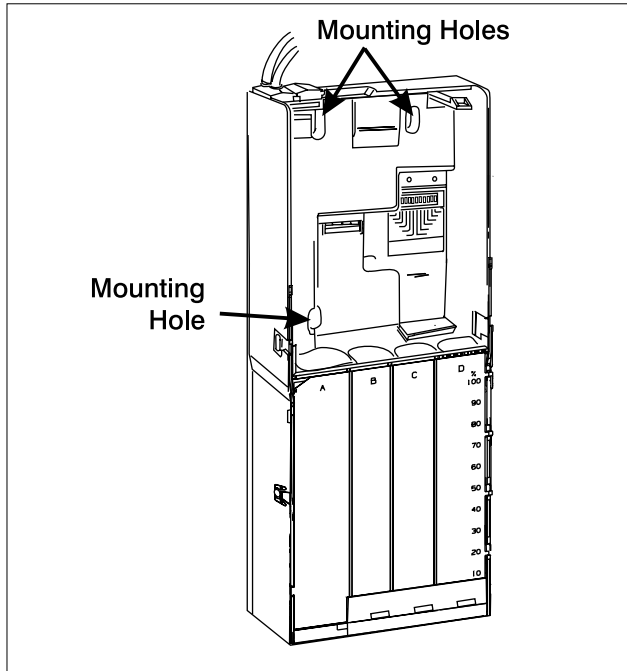

Figure 3
3. With the acceptor removed, set the mounting holes in the back of the changer housing over the mounting screws in the vendor. Tighten snugly (see figure 3).